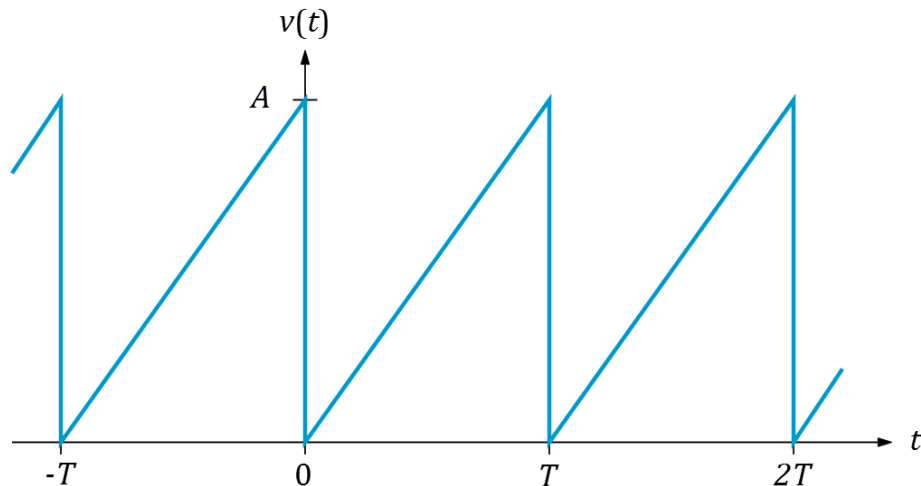

Figure 11.2: Voltage waveform for Problem 11.2
The sawtooth voltage waveform $v_s(t)$ shown in Figure 11.2 with $A = 5$ V and $T = 2$ ms serves as the input to the circuit of Figure 10.2 on page 138.
1. Build the circuit of Figure 10.2 on page 138 using the same component values listed in the problem statement. Drive the circuit input with A00 and use the ELVISmx Arbitrary Waveform Generator to produce the sawtooth waveform of Figure 11.2 on the facing page with the amplitude and period specified in the problem statement. Monitor the input voltage $v_s(t)$ with A10 and the output voltage $v_o(t)$ with A11.